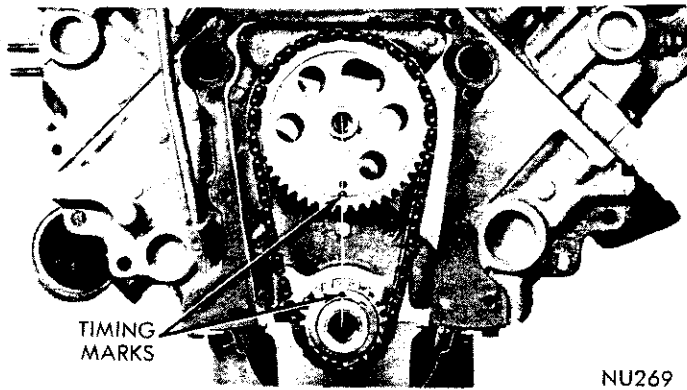

Fig. 24—Alignment Timing Marks
- (7) Place both camshaft sprocket and crankshaft sprocket on the bench with timing marks on exact imaginary center line through both camshaft and crankshaft bores.
- (8) Place timing chain around both sprockets.
- (9) Turn crankshaft and camshaft to line up with keyway location in crankshaft sprocket and in camshaft sprocket.
- (10) Lift sprockets and chain (keep sprockets tight against the chain in position as described).
- (11) Slide both sprockets evenly over their respective shafts and use a straight edge to check alignment of timing marks (Fig. 24).
- (12) Install the fuel pump eccentric, cup washer, and camshaft bolt. Tighten bolt to 35 foot-pounds.